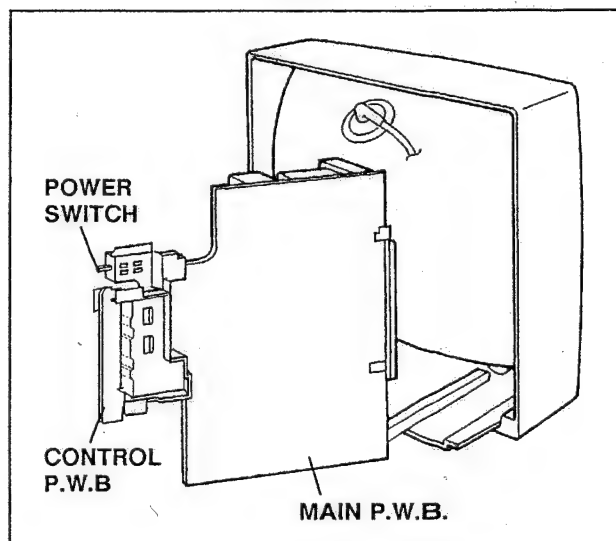

Fig. 4
- * As shown in Fig. 4, set the removed chassis upright.